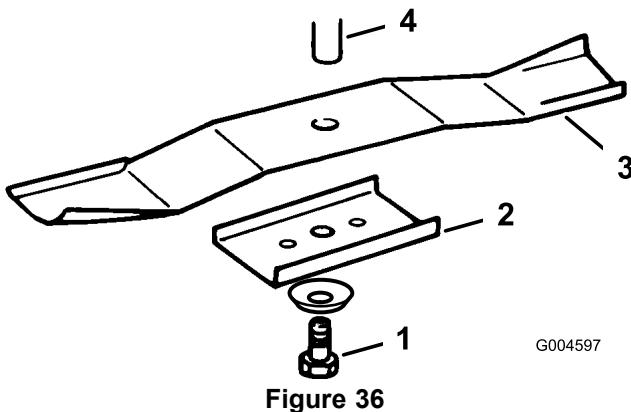

Figure 36
3. Remove the bolt (5/8 inch wrench), curved washer, retainer, and blade (Figure 36). Use a block of wood as a wedge between the blade and the mower to lock the blade when you are removing the bolt.
- 1. Install the blade, the blade retainer, the curved washer (cupped side toward blade), and the blade bolt (Figure 36).